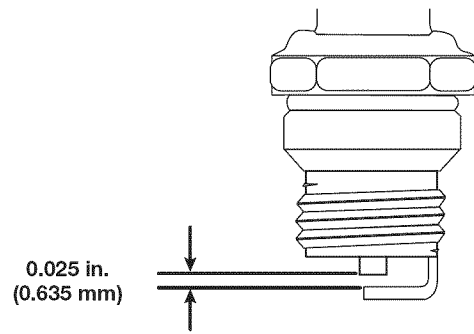

Fig. 22
6. Use a feeler gauge to set the air gap at **0.025 in. (0.635 mm)** (Fig. 22).